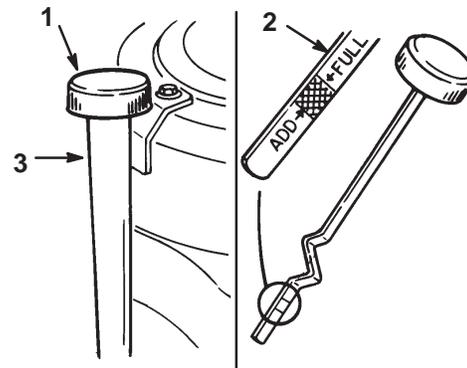

Figure 31
3. Clean around the oil dipstick (Fig. 31) so dirt cannot fall into the filler hole and damage the engine.
4. Unscrew the oil dipstick and wipe the metal end clean (Fig. 31).
5. Screw the oil dipstick fully onto the filler tube (Fig. 31). Unscrew the dipstick again and look at the metal end. If oil level is low, slowly pour only enough oil into the filler tube to raise the level to the "FULL" mark.
- Slowly pour approximately 80% of the specified amount of oil into the filler tube (Fig. 31). Check the oil level; refer to Checking Oil Level, page 34, steps 4–5.